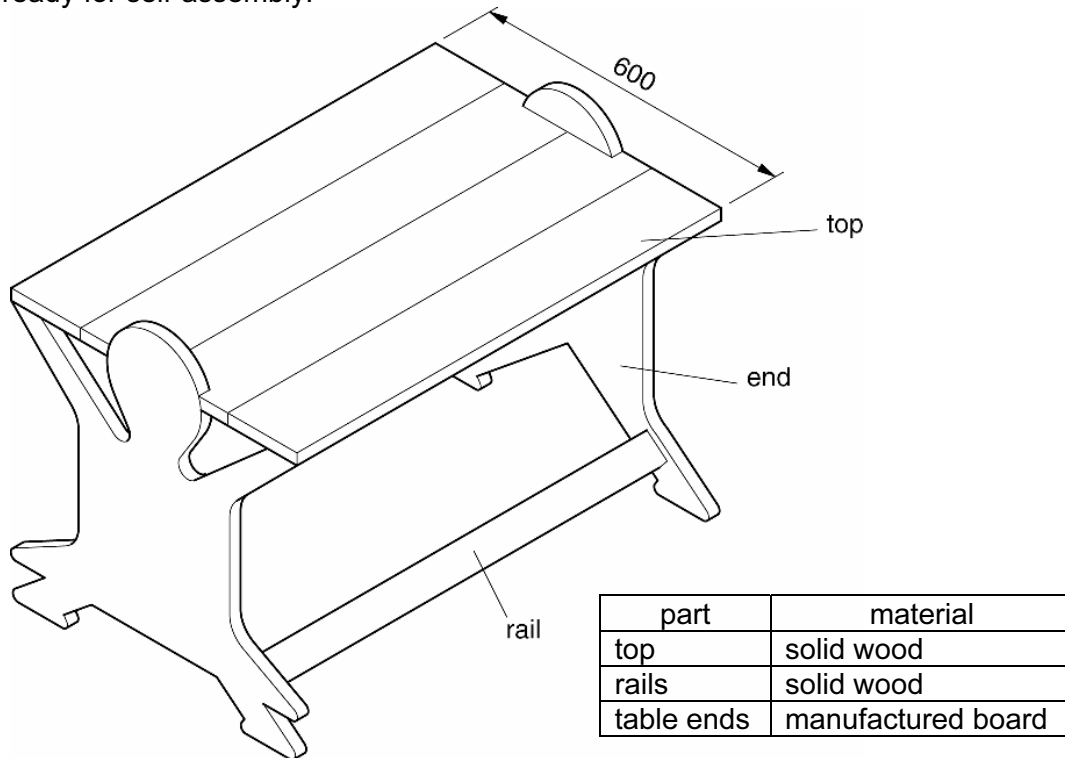

Fig. 3
- 11 Fig. 3 shows a table to be used in a children's library. The table is supplied as flat pack ready for self-assembly.